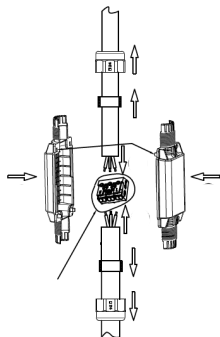

Fig. 3
- Slide the seal into the shell and tighten nut to 2.5Nm (see Fig.3)